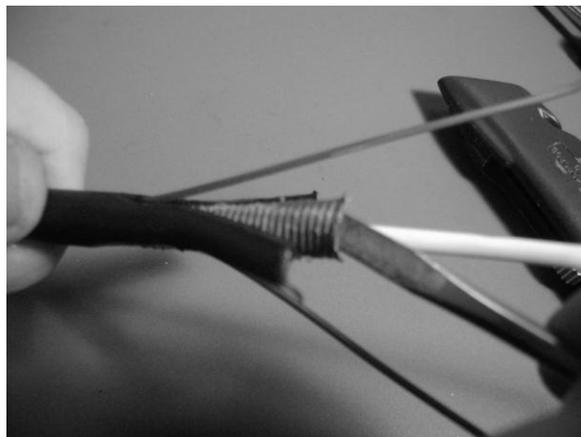

Figure 2 – Separate the armor overlap and lift the armor.
2.3 Trim the armor even with the outer cable jacket. Lift the two halves of the outer jacket to expose the armor layer. Separate the armor overlap and lift the armor from the core tube as shown in Figure 2.